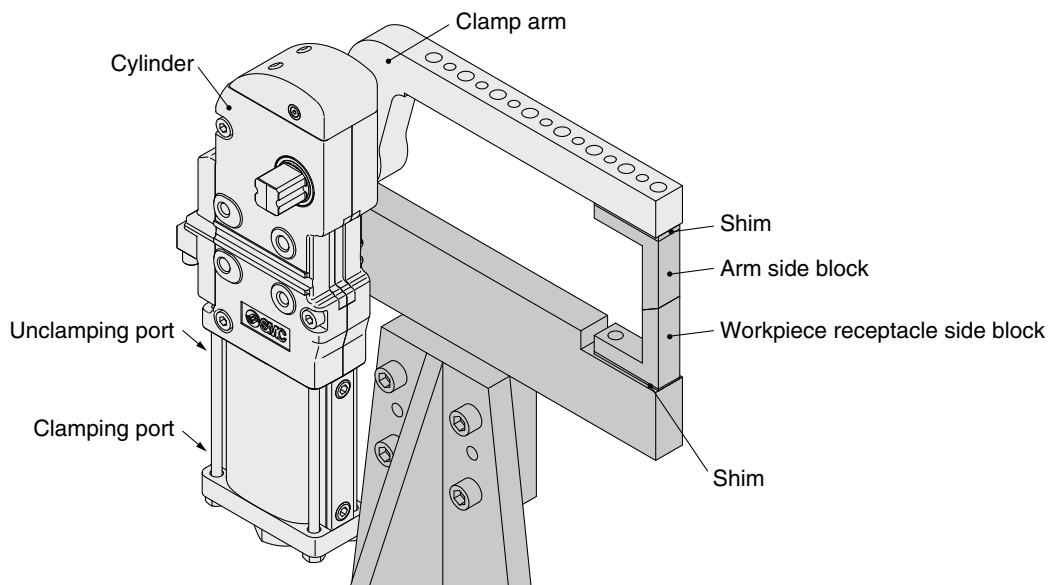

**Figure 1**
- 2) This product is designed to be used after being externally adjusted using a shim, and there is a mechanical difference of 0 to  $+0.5^\circ$  at the clamping end as shown in Figure 1.